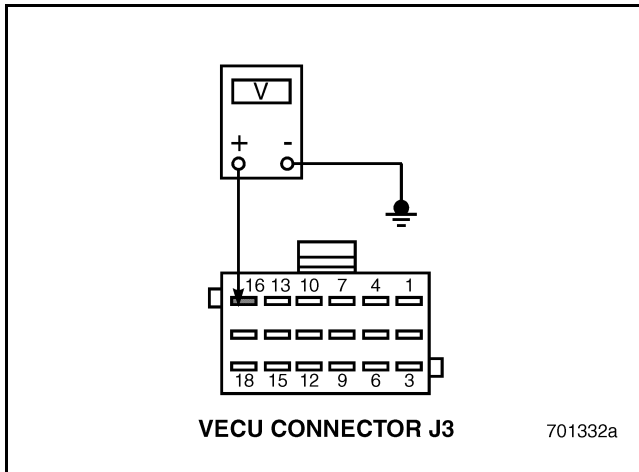

Figure 711
3. Measure the voltage between VECU connector J3 pin 16 and a good ground (see Figure 711).